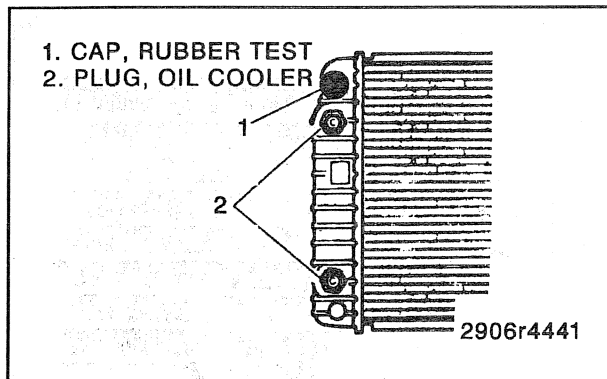

Figure 11—Oil Cooler Plugs
1. Install test fittings or rubber test caps in the inlet and outlet necks and seal the oil cooler fittings with metal plugs to protect the cooler and keep the fluid from running out (figure 11).